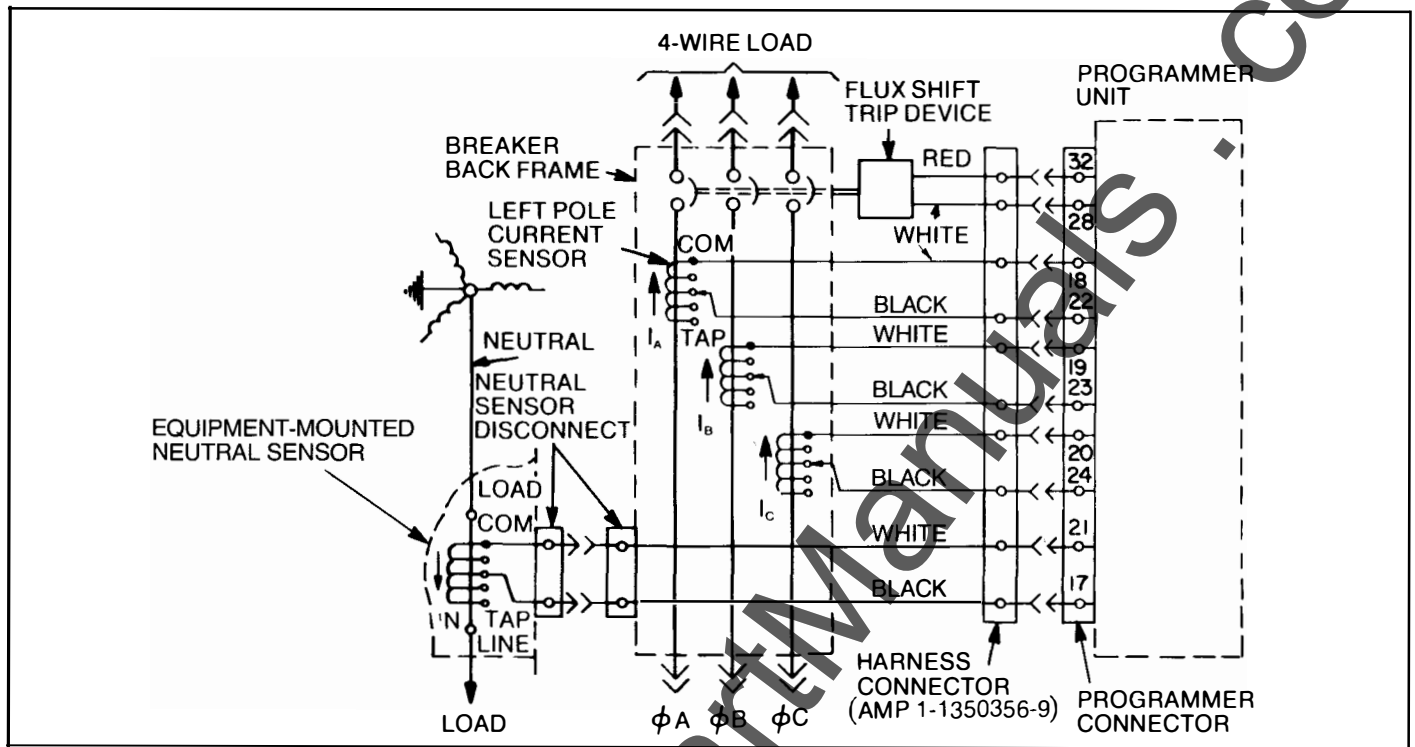

Fig. 6-4. Cabling diagram — MicroVersaTrip® RMS-9 with ground fault on 4-wire load-breaker reverse feed
- C. If the breaker's lower studs connect to the supply source, then the neutral sensor must have its LOAD end connected to the source. See Fig. 6-4.